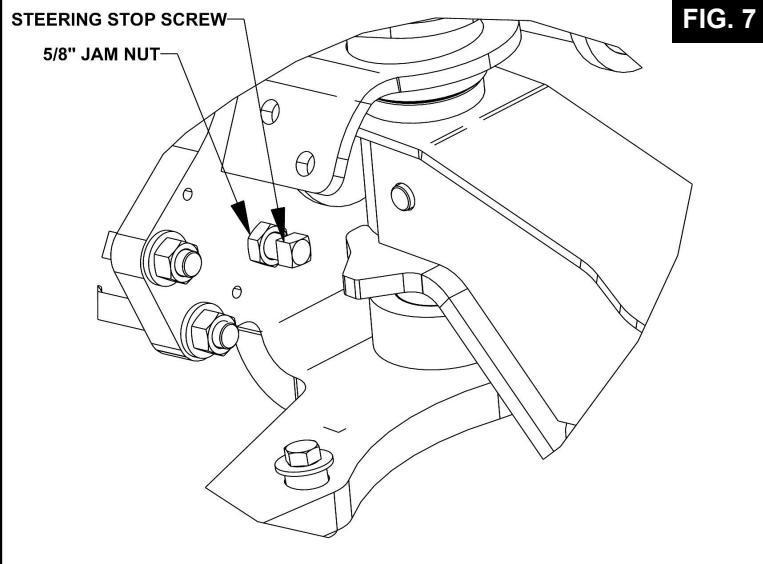

FIG. 7
10.1 The Steering Stop Screw is preset for maximum steer angle available without bottoming the steering shock absorber. The steering radius can be reduced to avoid tire contact with other parts of the vehicle by loosening the jam nut and turning out the steering stop screw (see Fig. 7).